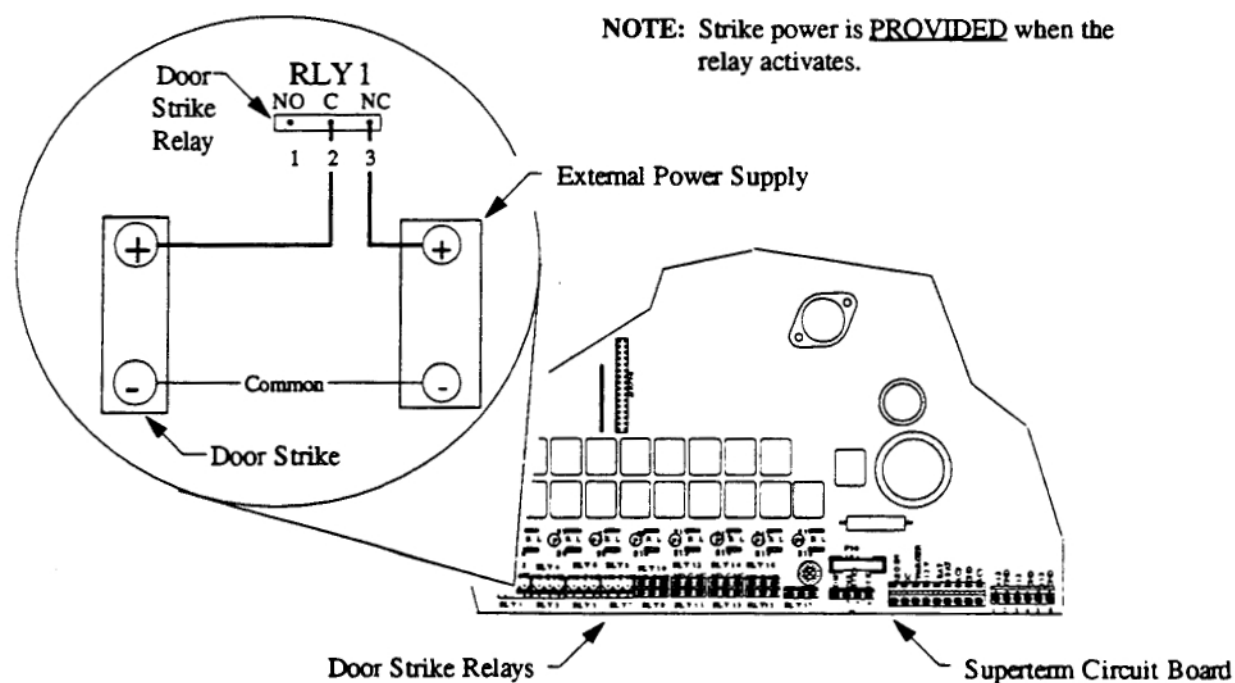

Figure 22 - REMOTE Power Door Strike Relay Connection - Normally Closed (NC) Condition
Table 21 lists the connections between the RLY#x terminal strip and the door strike for a Normally Closed (NC) relay condition (see Figure 22).